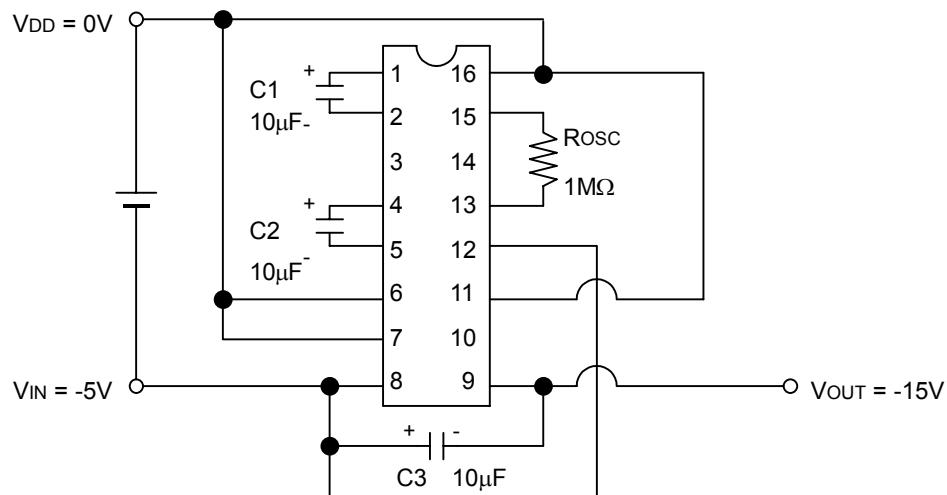
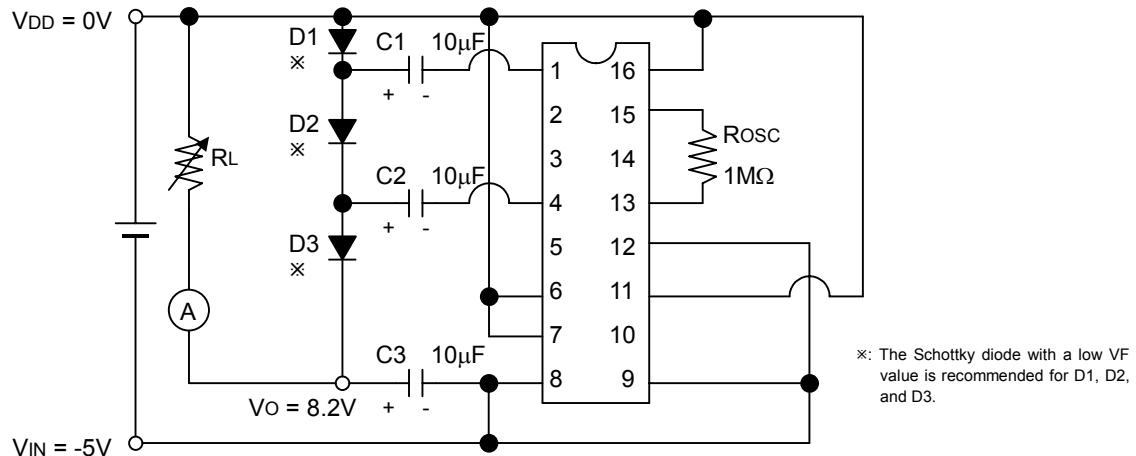

Fig.8.1 Triple boosting
Fig.8.8 Positive-voltage conversion
Fig.8.1 shows a connection example for obtaining the triple boosting output for input voltage by running only the booster. For double boosting, remove capacitor C2 and short between the CAP2- (No.5) and VO (No.9) pins; double boosting (-10V) is obtained from VO (CAP2-).
1) Fig.8.1 shows an applied-circuit example for stabilizing the boosting output obtained by double boosting and triple boosting through the stabilizer and providing the temperature gradient to the VREG output through the temperature gradient selection circuit. This applied-circuit example can indicate two outputs from Vo and VREG at the same time. Using the double boosting described in item (1) "Double Boosting and triple Boosting" enables double boosting + stabilizer.
The S1F76610 converts input voltage to positive voltage for double boosting or triple boosting through the circuit shown in Fig.8.8. (For double boosting, remove capacitor C2 and short both ends of D3.)
However, output voltage V_O lowers by forward voltage V_F of the diode. For example, as shown in Fig.8.8, $V_{DD} = 0V$; $V_{IN} = -5V$; and $V_F = 0.6V$ results in $V_O = 10V - 3 \times 0.6V = 8.2V$ ($5V - 2 \times 0.6V = 3.8V$ for double boosting).
Combining the triple boosting (Fig.8.1) with the positive voltage conversion (Fig.8.8) generates the circuit shown in Fig.8.9, and outputs -15V and +8.2V from -5V input.